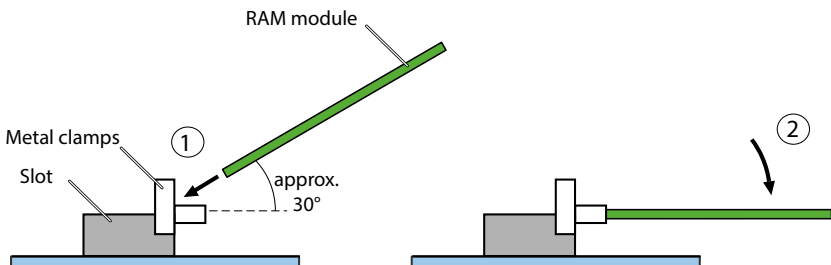

Fig. 72 Changing the RAM module
4. Place the module at a slight angle into the slot (see Fig. 72.).